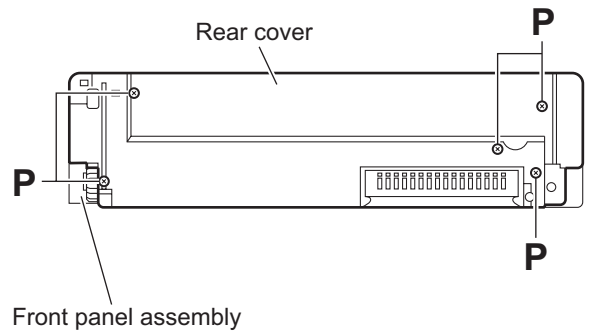

Fig.12
### 3.1.9 Removing the switch board (See Figs. 12 to 14)
- From the back side of the front panel assembly, remove the five screws **P** attaching the rear cover. (See Fig.12.)